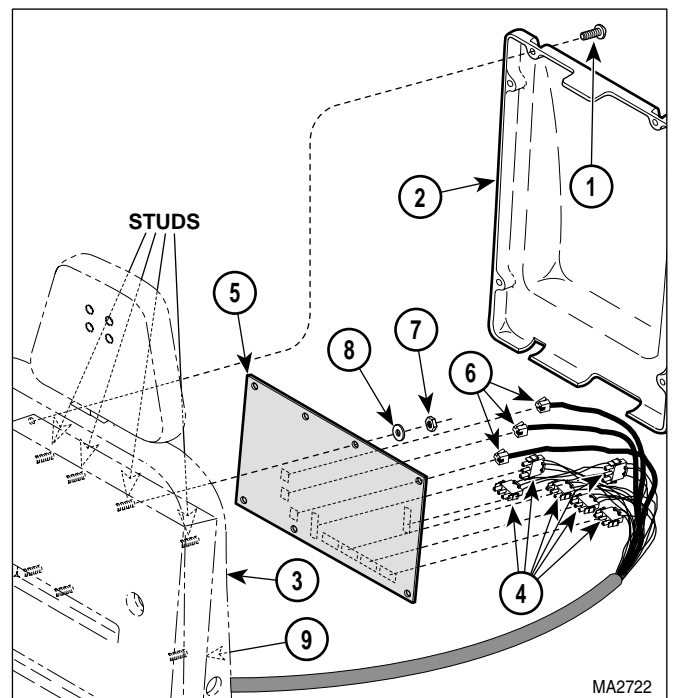

Figure 4-8 PC Control Board / Program PC Board Removal / Installation
- (1) Unplug power cord from wall outlet.
- (2) Remove six screws (1, Figure 4-8) and back cover (2) from plastic back section (3).
- (3) Tag and disconnect six wire harnesses (4) from PC control board (5).